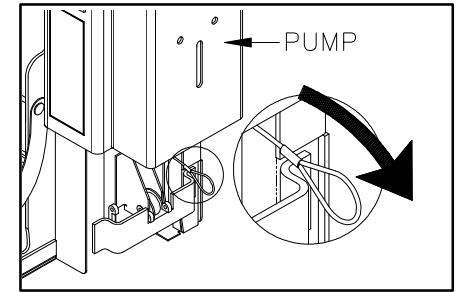

FIGURE 3-16: RELEASE STOW-LOCK
- 8) Refer to **Figure 3-16**. Pull and hold the manual release cable (located below the pump on the side of right column).